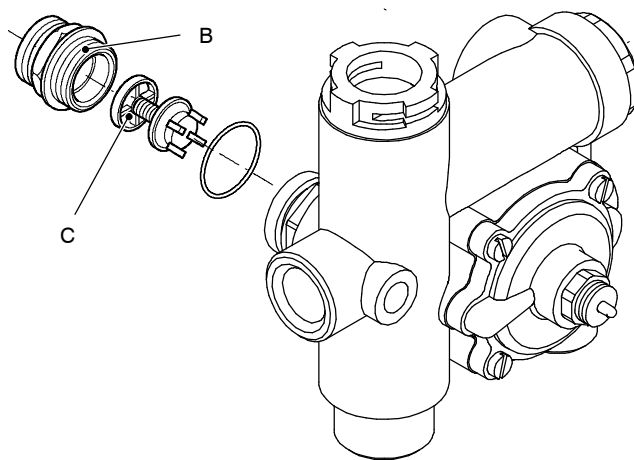

Fig. 66
- 4 Unscrew the connector B and remove the by-pass valve C (Fig. 66).
- 5 Reassemble the by-pass valve as illustrated in Fig. 66 reversing the order of removal.